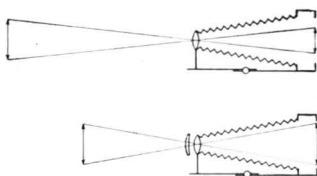

Figure 4. Portra Lens: for larger pictures of small objects at extended lens-to-film distance.
2. The use of Portra lenses with cameras having double-extension bellows results in larger images of small objects. (See Figure 4.) The image in some cases may be considerably greater in size than the object. The use of the 3+ Portra provides the greatest magnification.